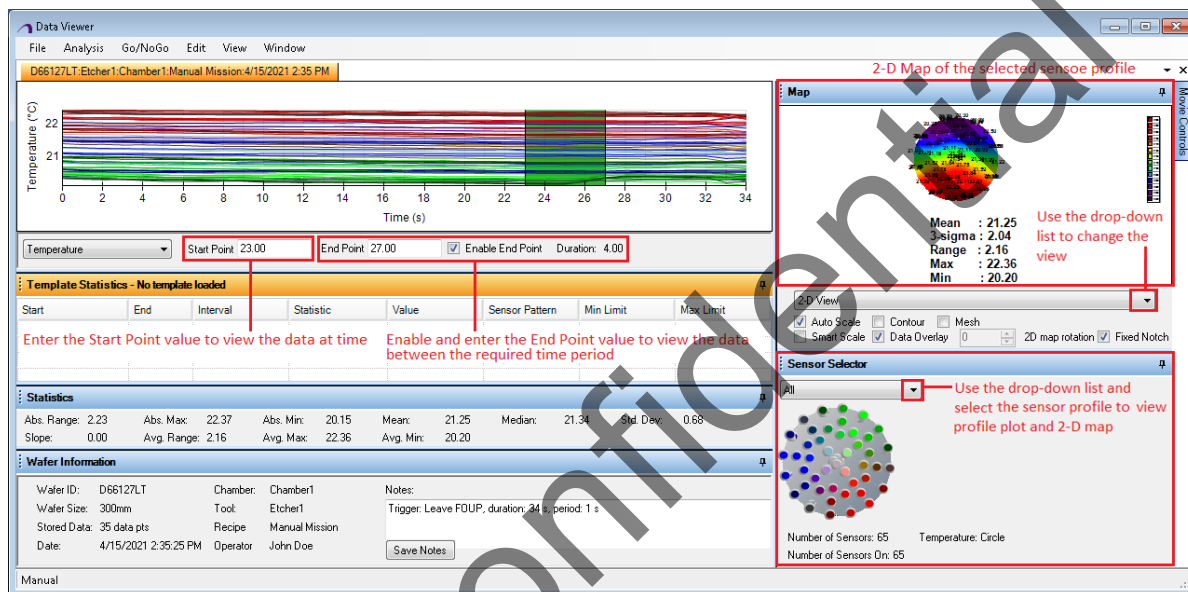

Figure 5-26 Data Viewer Window
3. The selected data will appear in the data viewer window, as shown in Figure 5-26.
2. You can view the temperature graph at a time, by entering the required time on the line graph **Start Point** (Refer to Figure 5-26).